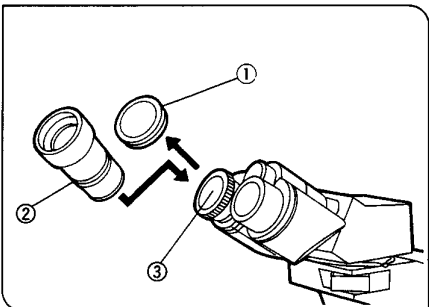

Fig. 3
3 Mounting the Eyepieces (Fig. 3)
1. Remove the eyepiece dust cap ①. (Fig. 3)
2. Insert the eyepiece ② into the eyepiece sleeve ③ as far as it will go. (Fig. 3)